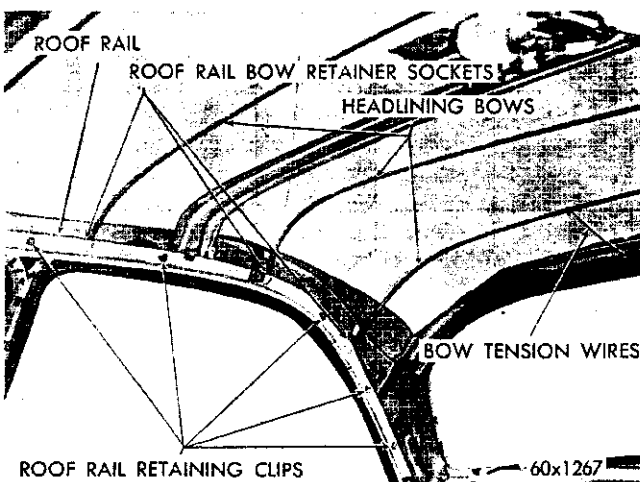

Fig. 60—Roof Rail Bow Retainer Sockets (Chrysler)
**NOTE:** The roof rails on all models using cloth headlining are strung through retaining loops sewed into the lining. Each bow is held in place by an attaching loop pressed into each roof rail and sprung in place when installed to keep the headliner taut (Fig. 60).
(5) After pulling the headlining from the wind-